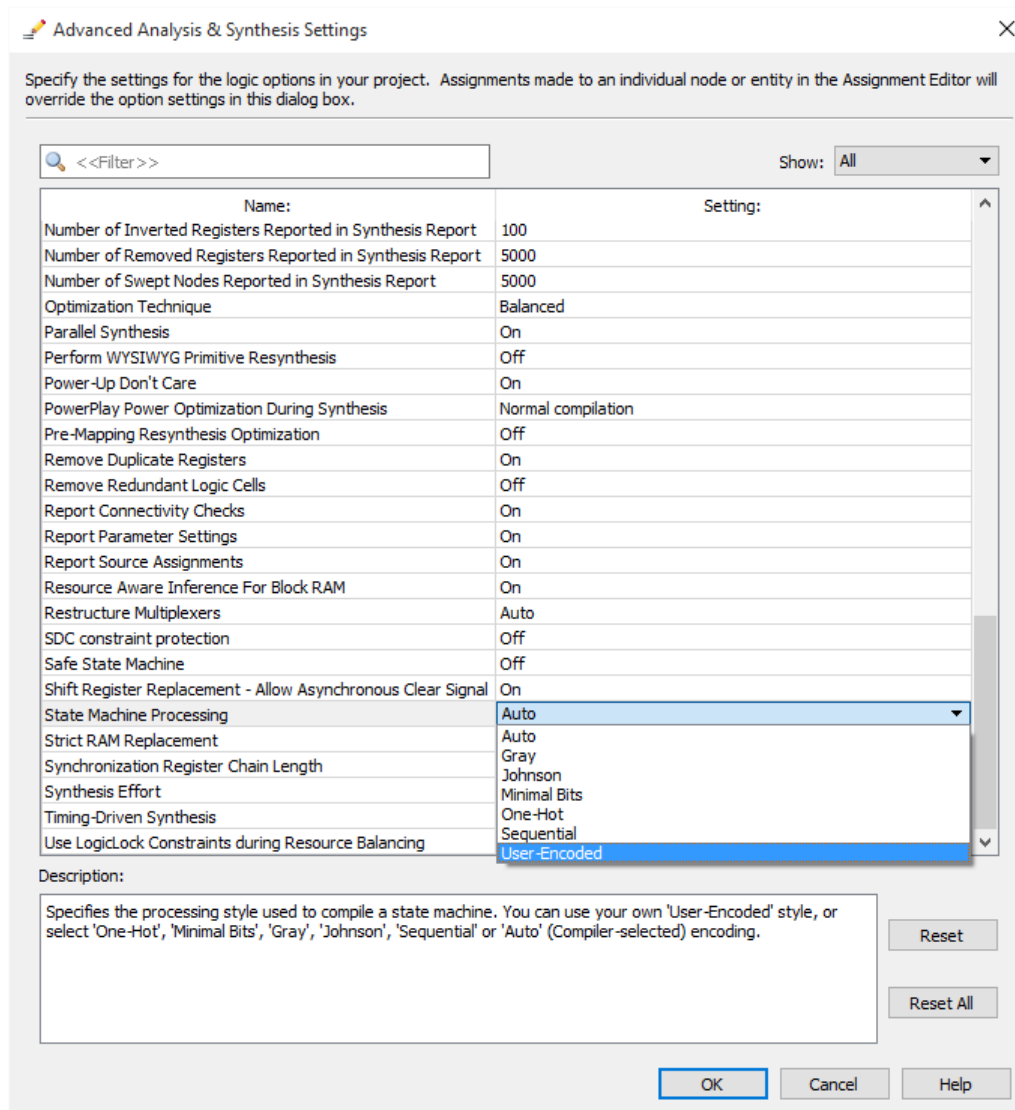

Figure 4: Specifying the state assignment method in Quartus II.
3. Before compiling your code it is necessary to explicitly tell the Synthesis tool in Quartus II that you wish to have the finite state machine implemented using the state assignment specified in your Verilog code. If you do not explicitly give this setting to Quartus II, the Synthesis tool will automatically use a state assignment of its own choosing, and it will ignore the state codes specified in your Verilog code. To make this setting, choose **Assignments > Settings** in Quartus II, and click on the **Compiler Settings** item on the left side of the window, then click on the **Advanced Setting (Synthesis)** button. As indicated in Figure 4, change the parameter **State Machine Processing** to the setting **User-Encoded**.